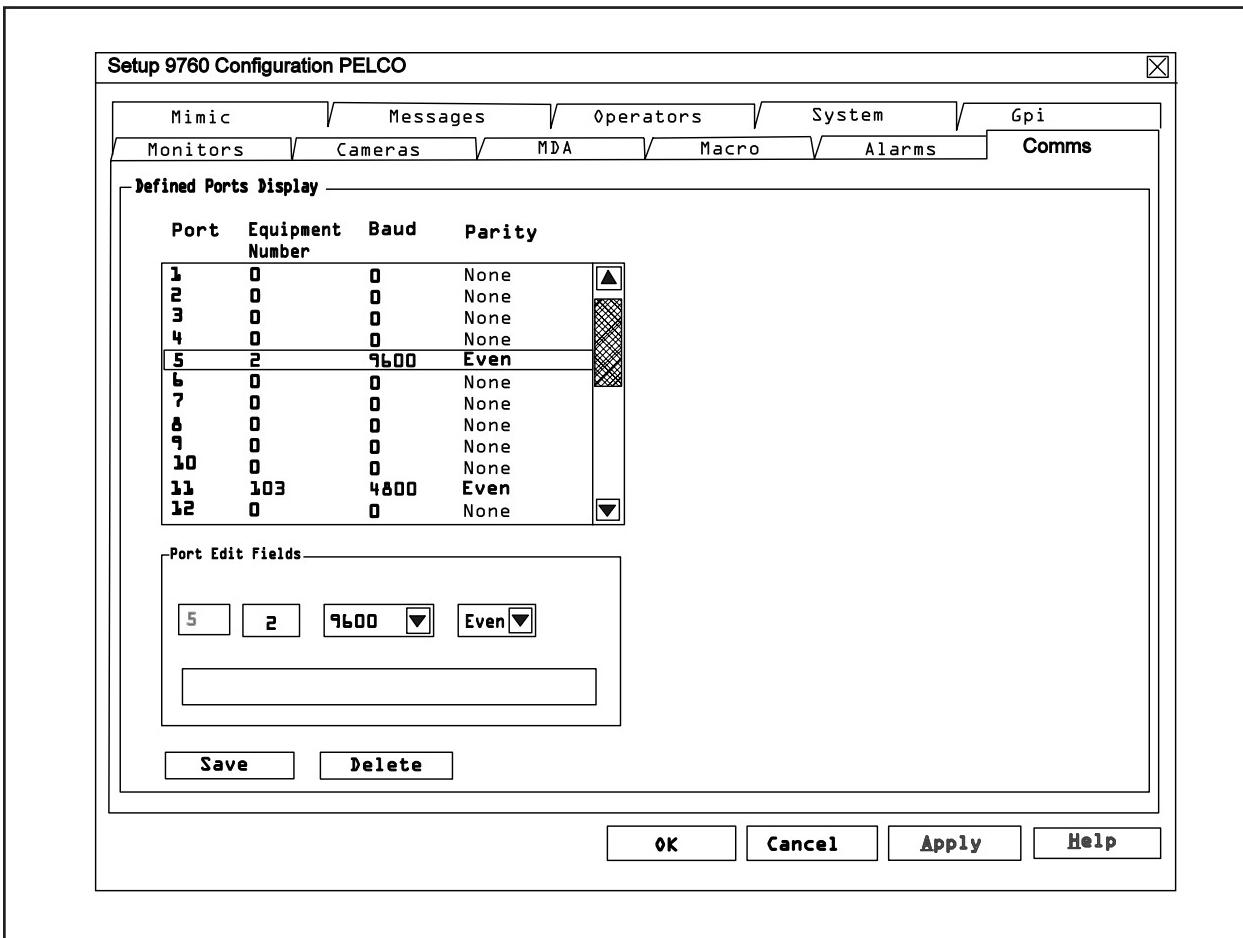

Figure 38. Configuration File Dialog Box
3. Click on “Setup Files” and the Setup File dialog box should appear on screen; select COMMS (refer to Figure 38).